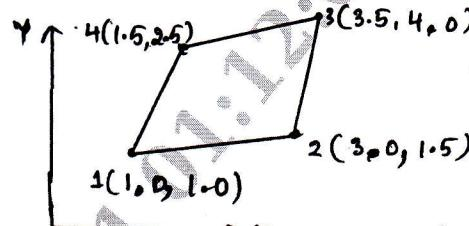

Fig Q5(b)
b. Determine the Cartesian coordinate of the point $p(\xi = 0.8, \eta = 0.9)$ as shown in Fig Q5(b).